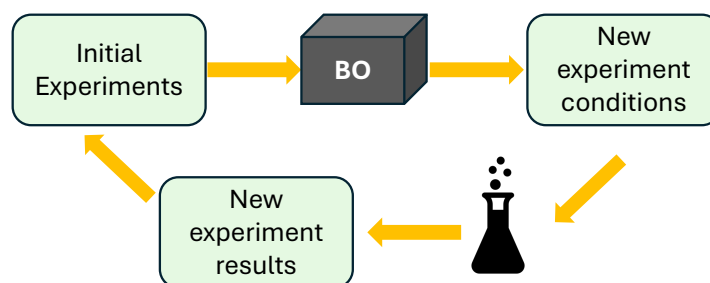

Figure 2: The loop for Bayesian Optimized Mitsunobu reaction.
Using their BO framework¹, the authors employed (1) DFT-based molecular encoding, (2) a Gaussian process surrogate model, and (3) expected improvement (EI) as the acquisition function (these concepts will be introduced later in the lecture). At each BO iteration, the selected reaction conditions were experimentally evaluated, and the resulting data were added to the training set. Through this iterative process, the authors ultimately identified reaction conditions achieving a 99% yield, substantially outperforming the standard conditions, which gave a yield of about 60%. In Fig. 2, we summarize the discovery loop.